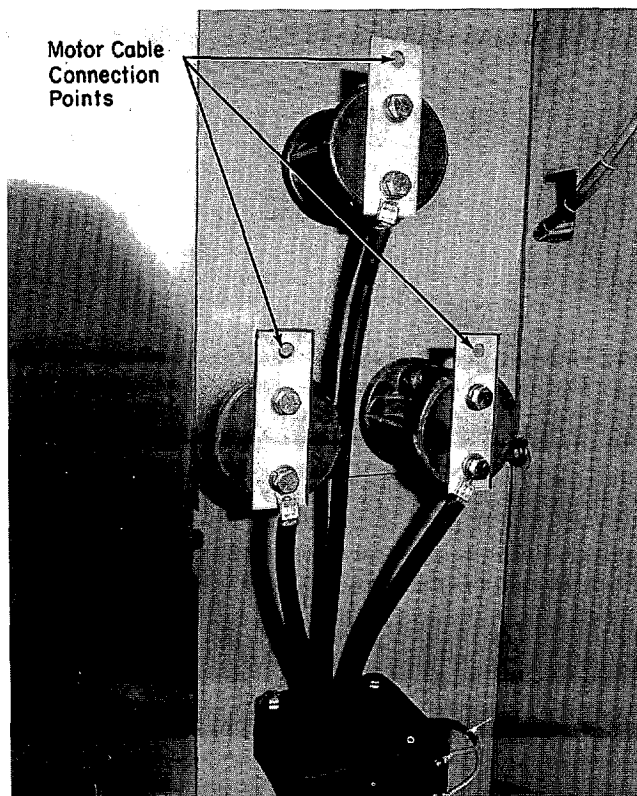
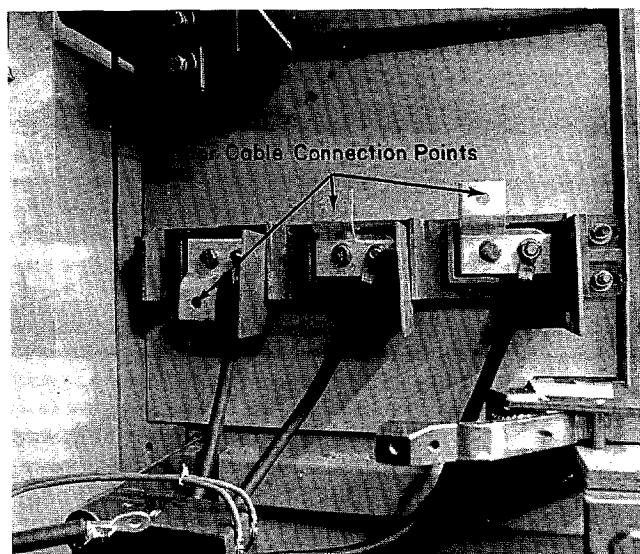

Fig. 61. Motor termination points for lower starter.
Fig. 62. Motor termination points for upper starter.
Motor termination points for the lower starter are located on the left sidewall. See Fig. 61. Terminations for the upper starter are on the right sidewall. See Fig. 62. Pull the cables and connect to the respective termination points.
6. Motor termination points are now accessible. (Fig. 61.) Connection may be made from either the top or bottom of the enclosure.
4. Connections may be made to the terminals on the right sidewall, from either the top or bottom of the compartment (Fig. 62).